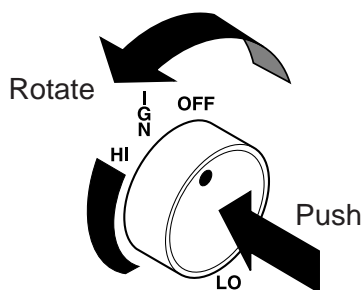

Figure 33 - IGN Position
6. From OFF position, push in gas control knob slightly and turn counterclockwise  to the IGN position. See *Figure 33*. Push in and hold control knob for 5 seconds.